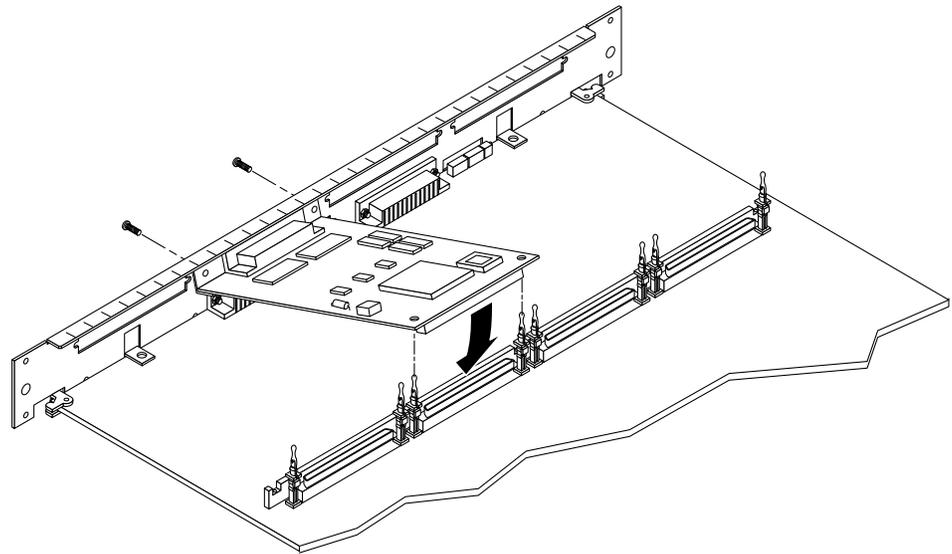

Figure 1-2 Installing the UDWIS/S Host Adapter Card on the Processor Board
5. **Slide the card at an angle into the back panel of your processor board as shown in Figure 1-2.**